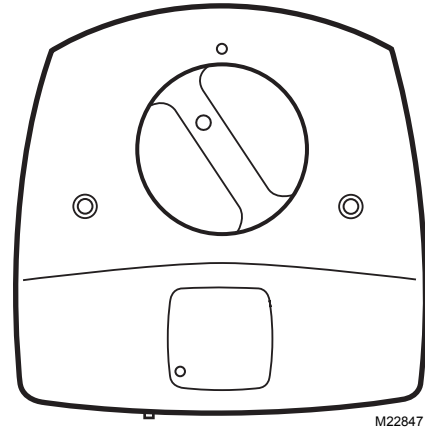

Fig. 14. Position lamp handle for insertion back into lamp base.
7. Insert the lamp handle into the base with the lamp light indicator at the eleven o'clock position. Continue pushing and gently rotating counterclockwise until the lamp handle inserts fully into the base. See Fig. 14.